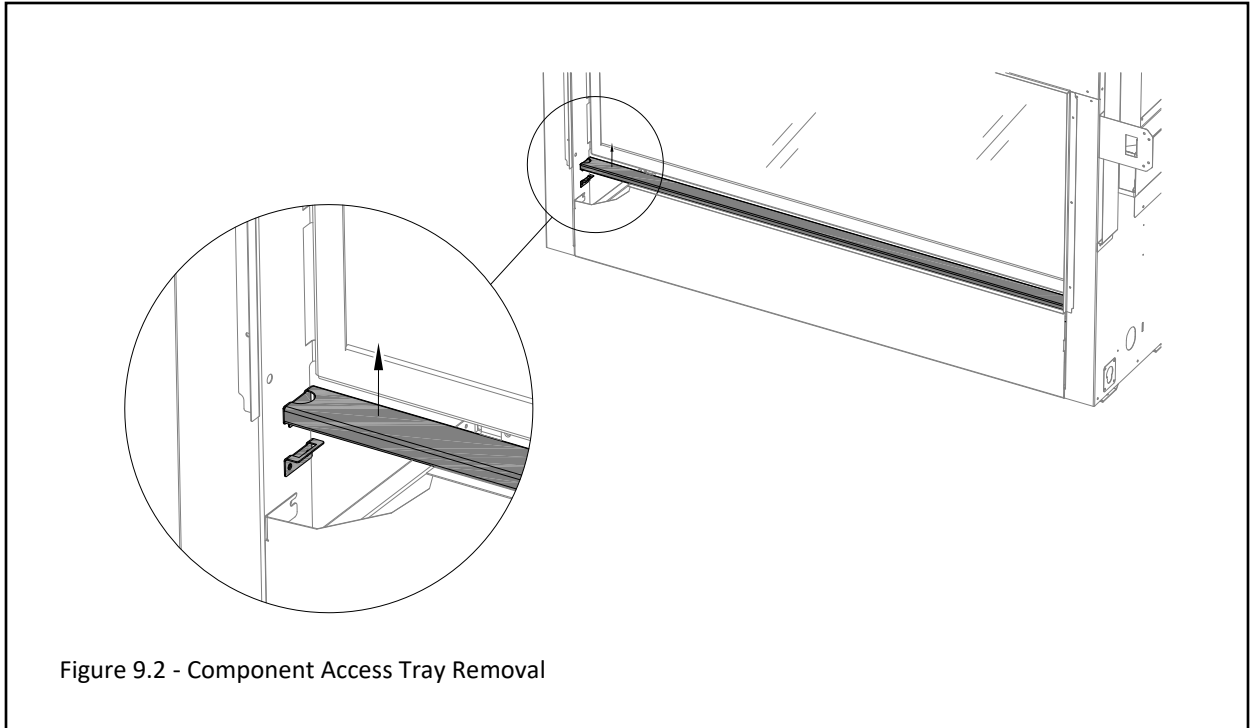

Figure 9.2 - Component Access Tray Removal
2. Lift up and remove the component access tray to gain access below the fireplace. See Figure 9.2.